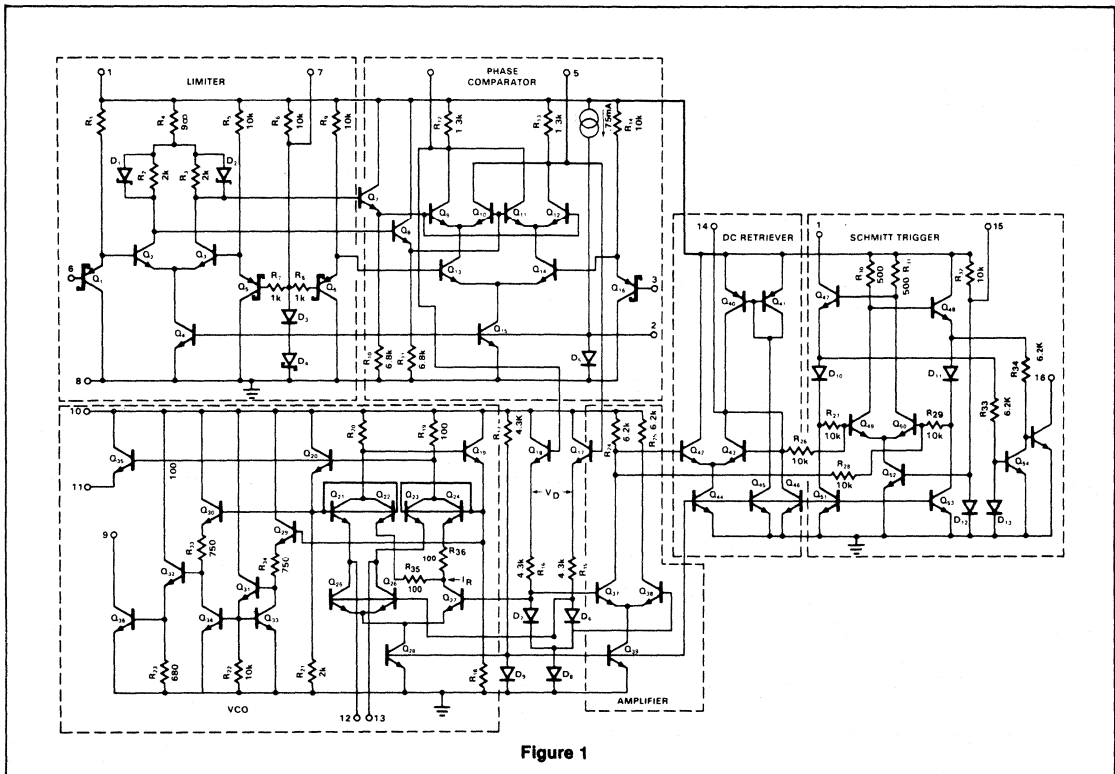

Figure 1
**FUNCTIONAL DESCRIPTION (figure 1)**
\*Refer to Figure 1.